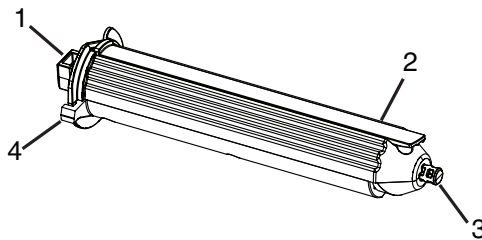

Figure 6, Ribbon Take-up Spindle
To replace the ribbon take-up spindle, position the square end (**Figure 6, 1**) of the spindle in the square notch on the right side of the printer, push the spindle slightly to the right and slide the other end of the spindle into the notch on the left side of the printer.
7. Slide the end of the ribbon under the ribbon hold-down tab (**Figure 6, 2**) so that about 2 inches (50.8 mm) protrude past the tab. Fold the end of the ribbon back on top of itself over the tab.
NOTE: To remove ribbon from the ribbon take-up spindle, press and hold the thumb lever (**Figure 6, 4**) to compress the spindle and slide the ribbon off the spindle.